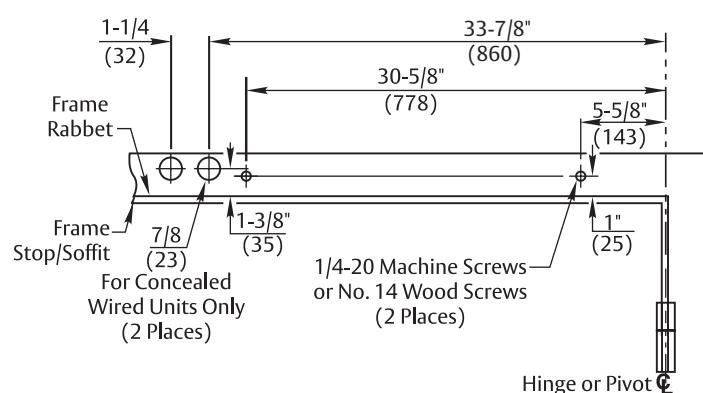

Figure 3 Left Hand Shown
- Using template on page 26, prepare mounting holes for screws. (Figure 3)
- Drill/tap two (2) 1/4-20 holes for steel frame or two (2) #14 holes for wood frame at marked locations.
- Drill two (2) 7/8" diameter holes in frame at marked locations.